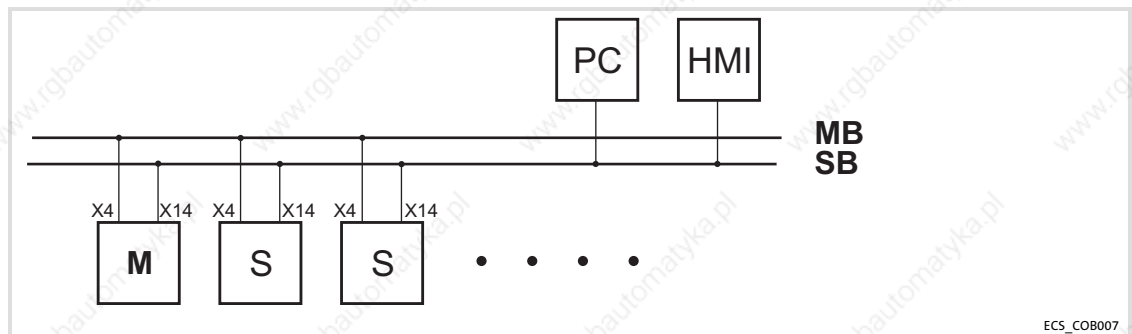

Fig. 5-16 MotionBus (CAN) with controller as master
- ▶ In Fig. 5-16 the function of the master is enabled by a controller that is assigned to the master.